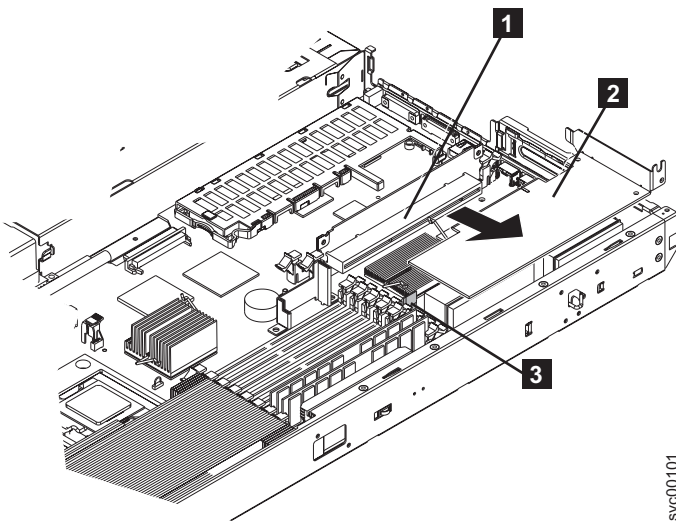

Figure 177. SAN Volume Controller 2145-8F2 riser card and low profile adapter
- b. Hold the blue adapter support away from the card and pull it away from the edge connector on the riser card assembly, as shown in Figure 177.